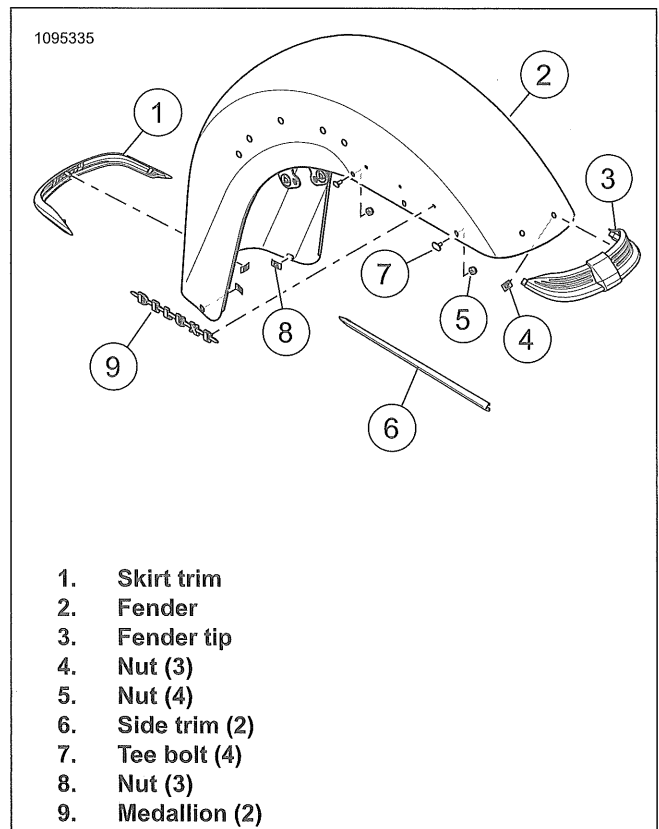

Figure 3-116. Front Fender Disassembly (Typical)
1. See Figure 3-116. Remove side trim.
- a. Remove nuts (5).
- b. Remove trim (6).
- c. Remove tee bolts (7) from trim.
- a. Remove nuts (4).
- b. Remove tip (3).
3. Remove medallions (9). See MEDALLIONS, BADGES, TANK EMBLEMS AND ADHESIVE STRIPS (Page 3-147).
4. See Figure 3-116. Remove skirt trim.
- a. Remove nuts (8).
- b. Remove trim (1).
1. See Figure 3-116. Install skirt trim.
- a. Position skirt trim (1) on fender (2).
- b. Install nuts (8).
- b. Remove adhesive backing from medallion (9).
- a. Position fender tip (3) on fender (2).
- b. Install nuts (4).